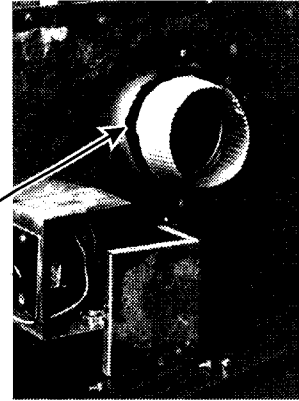

Figure 31
29. Seal with silicone the 4-inch diameter collar on the right side of the unit. **See Figure 31.**